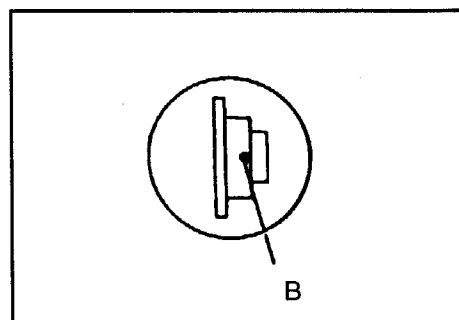

Figure 29 Position B
1. Lubricate bearing zerk with one shot of grease at each B position (13 positions). See Figure 29.